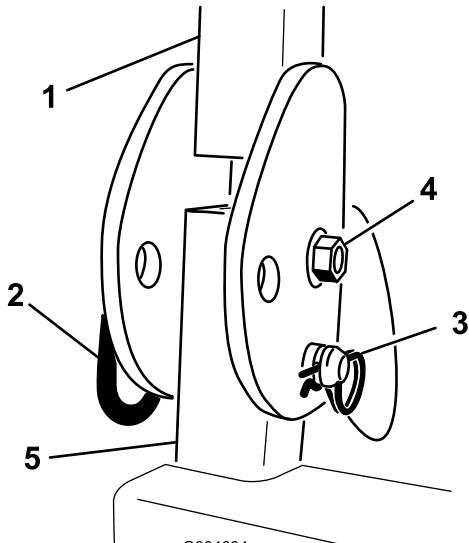

Figure 5
1. Remove the hairpin cotter pins and remove the two pins from the roll bar (Figure 5).
2. Raise the roll bar to the upright position and install the two pins and secure them with the hairpin cotter pins (Figure 5).